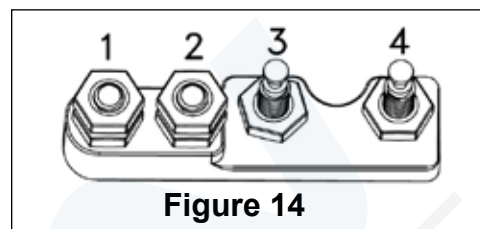
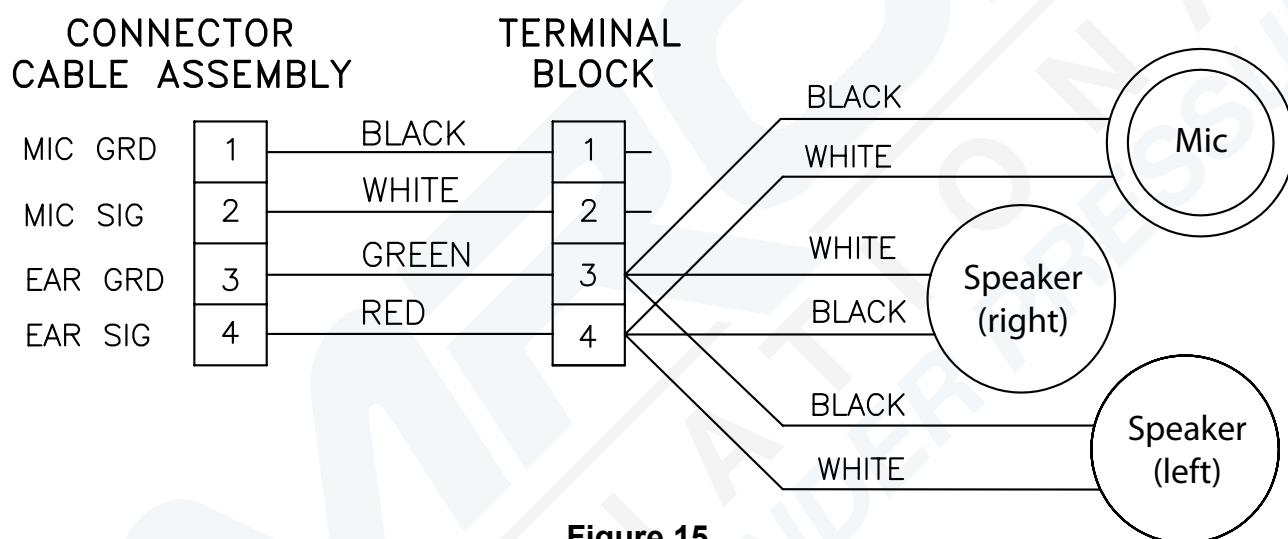

Figure 14
Figure 15
1. Install connector cable lug rings onto the terminal block (83) per the terminal block pin configuration (Fig. 14) and wiring diagram (Fig. 15). Install the speakers left / right and microphone lug rings onto the terminal block per the wiring diagram. Securely tighten communication post hex nuts to terminal block with a 3/8" nut driver.